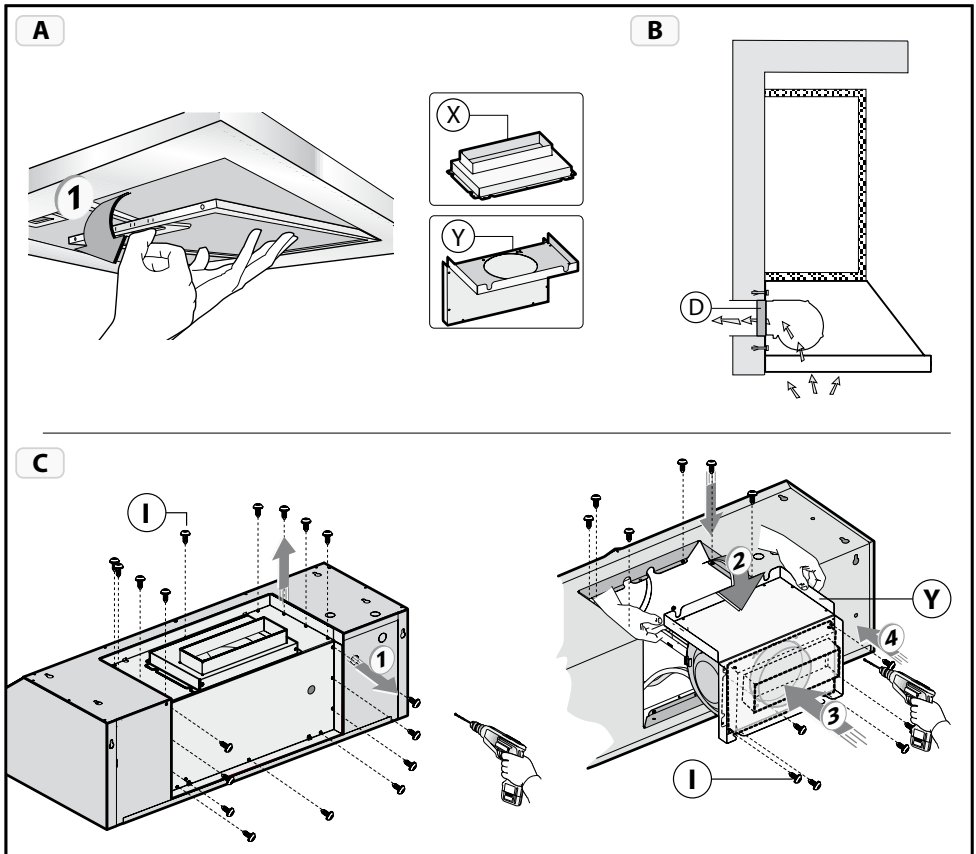

Fig.1
**Fig.1:** Take the rectangular shape **X** and fasten it to the hood using the 7 screws. To convert this model from the suction to the filtering version, it is not necessary to use the rectangular shape **X**.